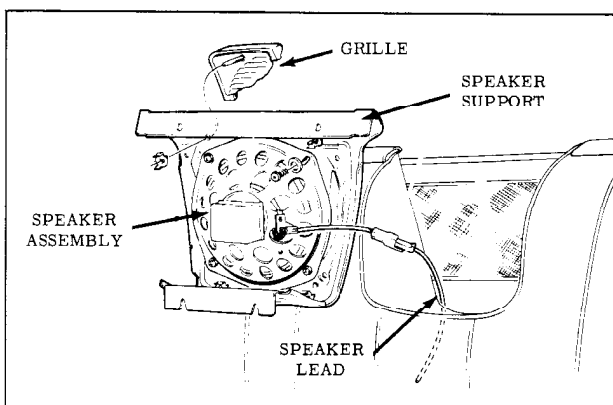

Fig. 15-17 Rear Seat Speaker (67 Styles)
5. Disconnect lead wire from speaker. Remove the four speaker attaching screws and remove speaker. (Fig. 15-17)